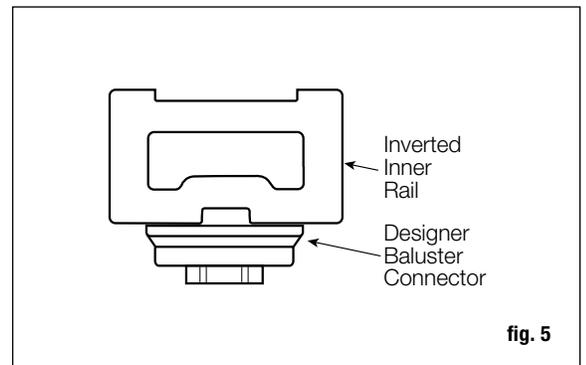
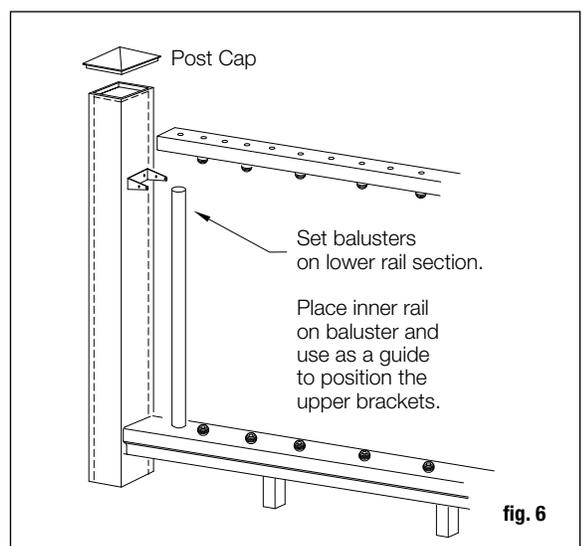

fig. 5
fig. 6
Step 12 *Important: When using Deckorators Designer Baluster Connectors (both Estate and Classic), the upper inner rail must be inverted (fig. 5). Use an exterior adhesive on the underside of the Designer Baluster Connectors to prevent the balusters from spinning.* Install the baluster connectors on the underside of the top inner rail (fig. 6). Set the rail on to the balusters, gently tapping the rail to remove any gaps. Attach the inner rail to the brackets by pre-drilling 1/8" holes at each bracket hole and into the inner rail. Fasten the rail to the bracket using 1" countersunk screws.
Step 10 *Important: When using Deckorators Designer Baluster Connectors (both Estate and Classic) in conjunction with the stair adaptors, the upper inner rail must be inverted (figure 5). Use an exterior adhesive on the underside of the Designer Baluster Connectors to prevent the balusters from spinning.* Install the remaining baluster connectors and stair adaptors (if applicable) on the underside of the upper inner rail. Set the rail onto the balusters, gently tapping the rail to remove any gaps. Attach the upper inner rail to the brackets by pre-drilling 1/8" holes at each bracket hole and into the inner rail. Fasten the rail to the bracket using 1" countersunk screws.